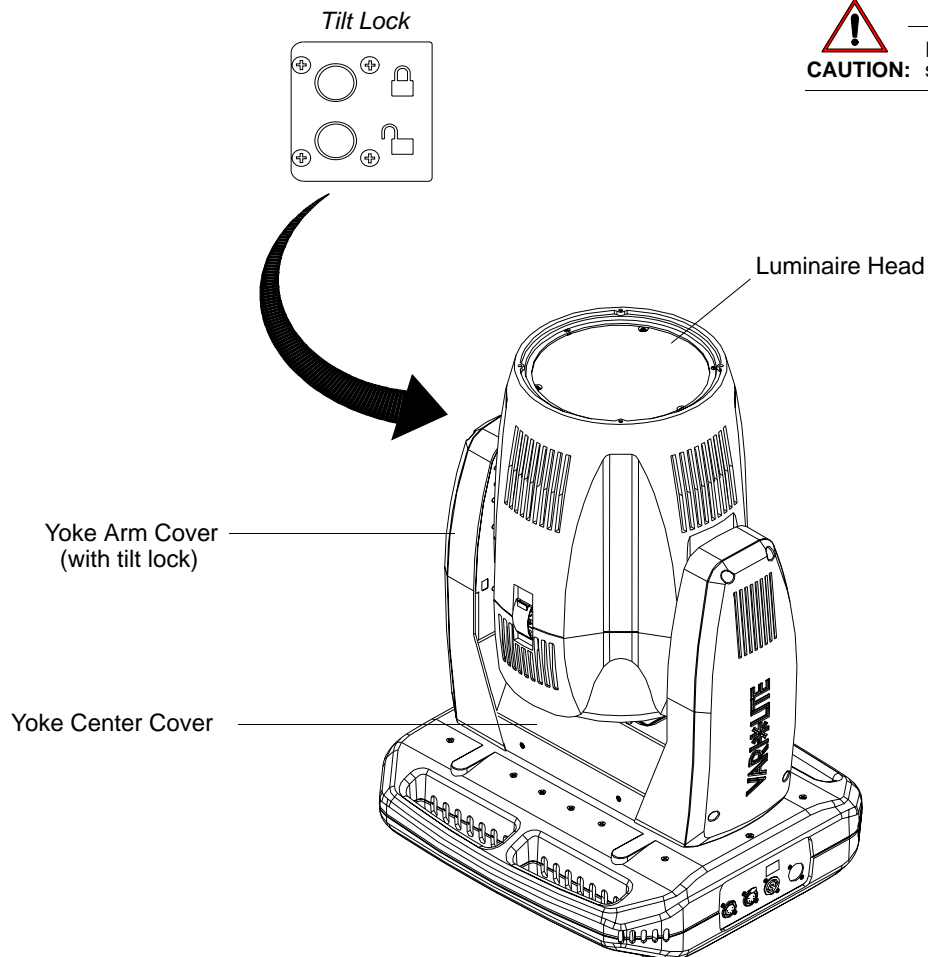

Figure 2-11: VLX Wash Luminaire
- Step 2. At tilt-lock side yoke arm cover, remove yoke arm cover by loosening four 1/4-turn Dzus fasteners. Refer to Figure 2-11 for details.